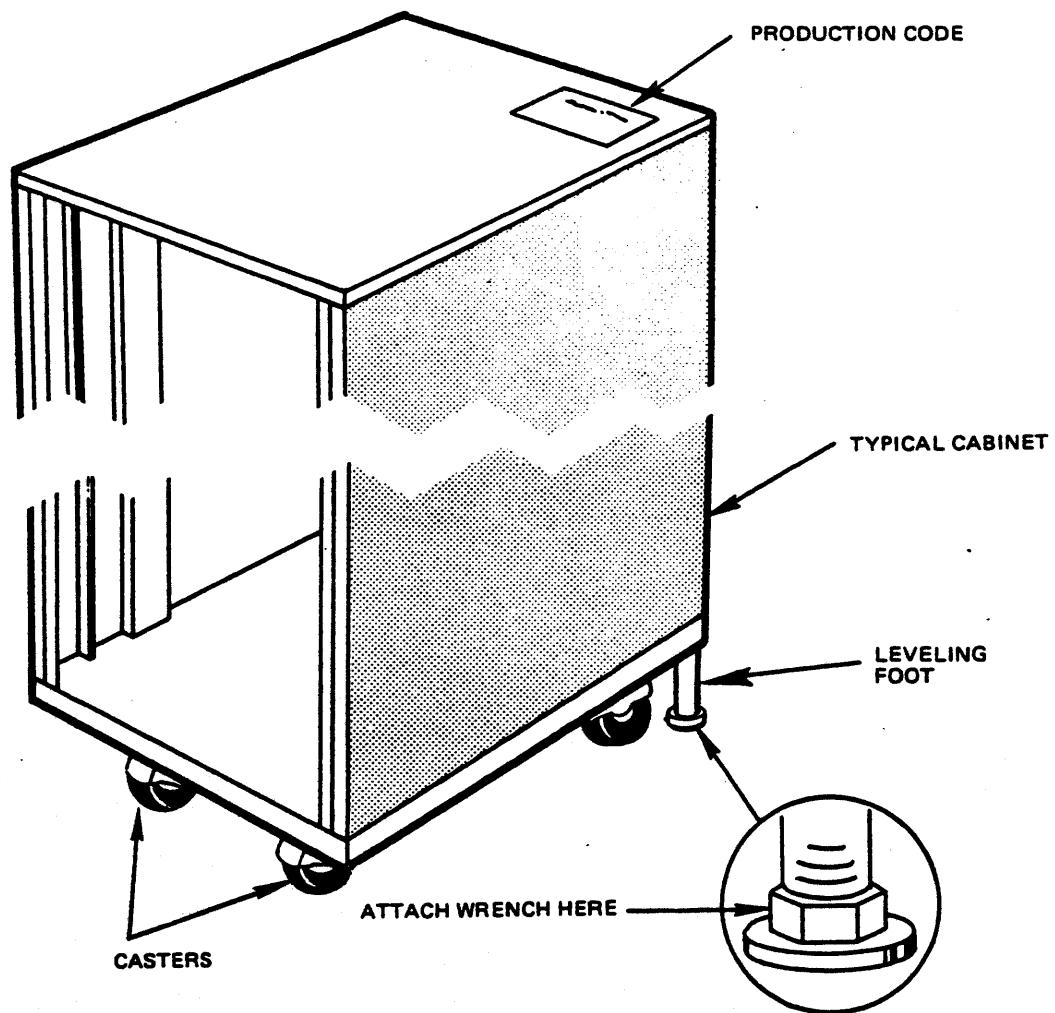

Figure 3-1 System Cabinet -- Adjustment of Leveling Feet
2. Place a level on top of the cabinet. Using a 3/4-inch open-end wrench, adjust the leveling feet so that the cabinet is level (see Figure 3-1).